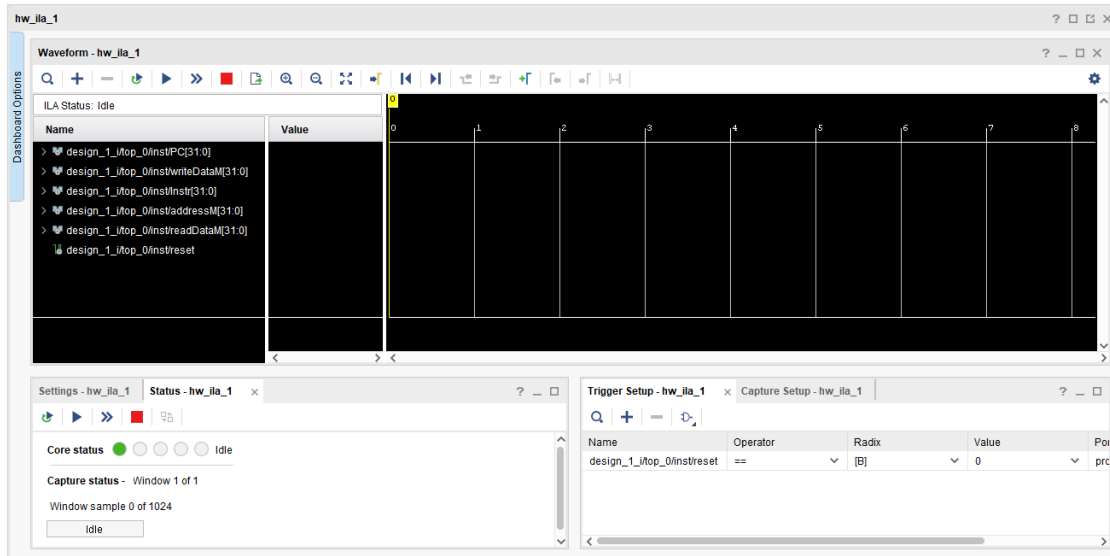

Figure 10: Signal Analyzer and Debug Trigger Menus
10. With the FPGA programmed and BTN0 still held down, press the play button along the top panel of the signal analyzer view that has appeared in the Hardware Manager window to arm a debug trigger that has been pre-applied (i.e., Figure 10).